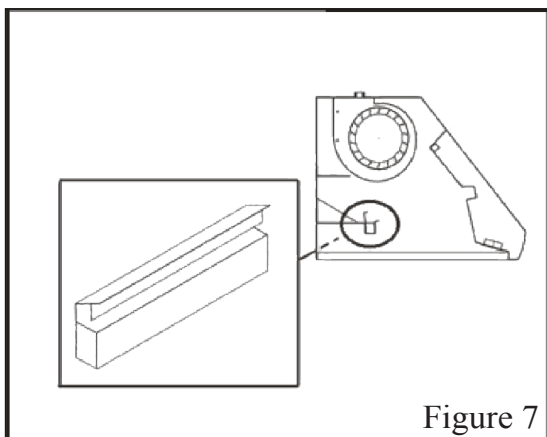

Figure 7
9. Drop oil tunnel into recess support near rear of hood. Refer to Figure 7.